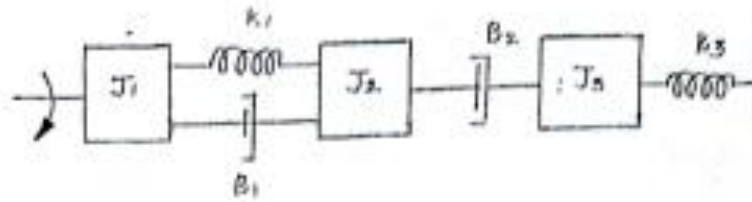

Fig. 11(a)
11. (a) (i) Compare open and closed loop control systems. (4)
- (ii) Write the differential equations governing the mechanical rotational system as shown in Fig. 11(a). Draw the both electrical analogous circuits. (12)